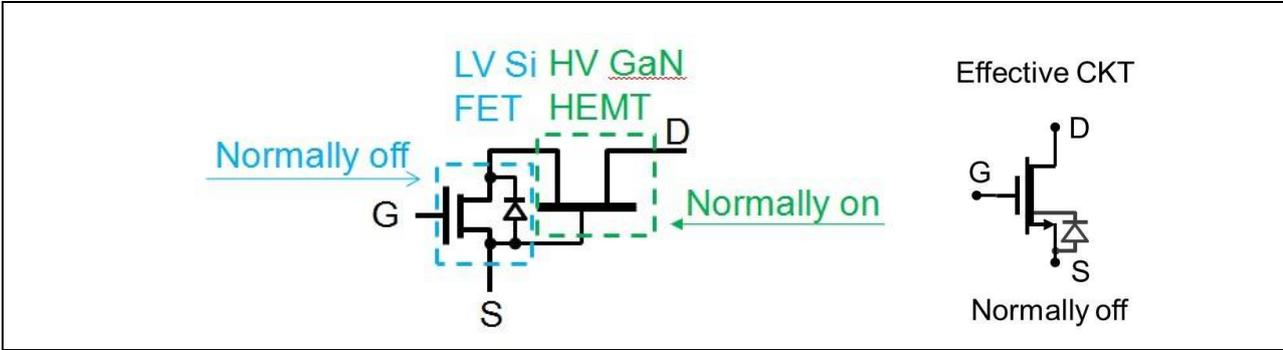

Figure 1: Renesas GaN Switch
Renesas Gallium Nitride (GaN) Power Switches comprise a normally-off low voltage (LV) Silicon (Si) MOSFET and a normally-on high voltage GaN High Electron Mobility Transistor (HEMT) in cascode configuration (Figure 1).
To better understand the operation of the GaN switch (Fig. 1), three modes of operation can be distinguished: